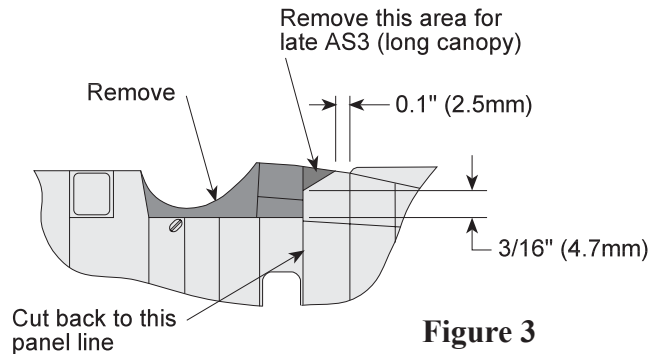

Figure 3
Tape the fuselage halves together, mark the cut lines on the rear fuselage as in **Figure 3**, and remove as indicated. Use a flat file to finish the edges, and use the kit turret base (part 58) to check your work. This top face of this part should be just flush with the bottom edge of the cutout area.
- The cut line for the greenhouse extension has the aft end cut at an angle as shown in **Figure 3**. To be safe, mark the corner as shown on the drawing but don't cut right to the lines. Instead, carefully cut out the vacuform piece and use it as an aid to cutting the fuselage.